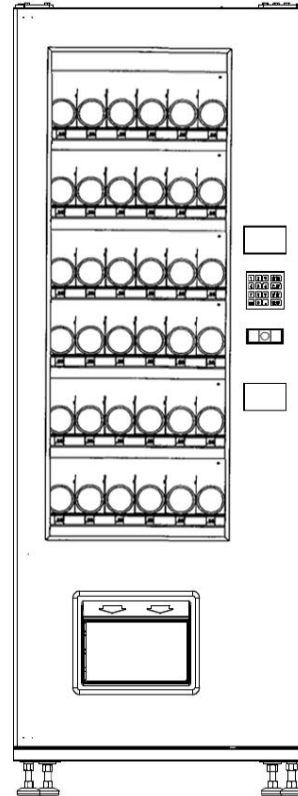

Figure 6.3.2 Leveling the vendor
1) On the bottom of the vendor are 4 threaded leveling support feet (refer to the figure 6.3.2) located at the corners of the cabinet;